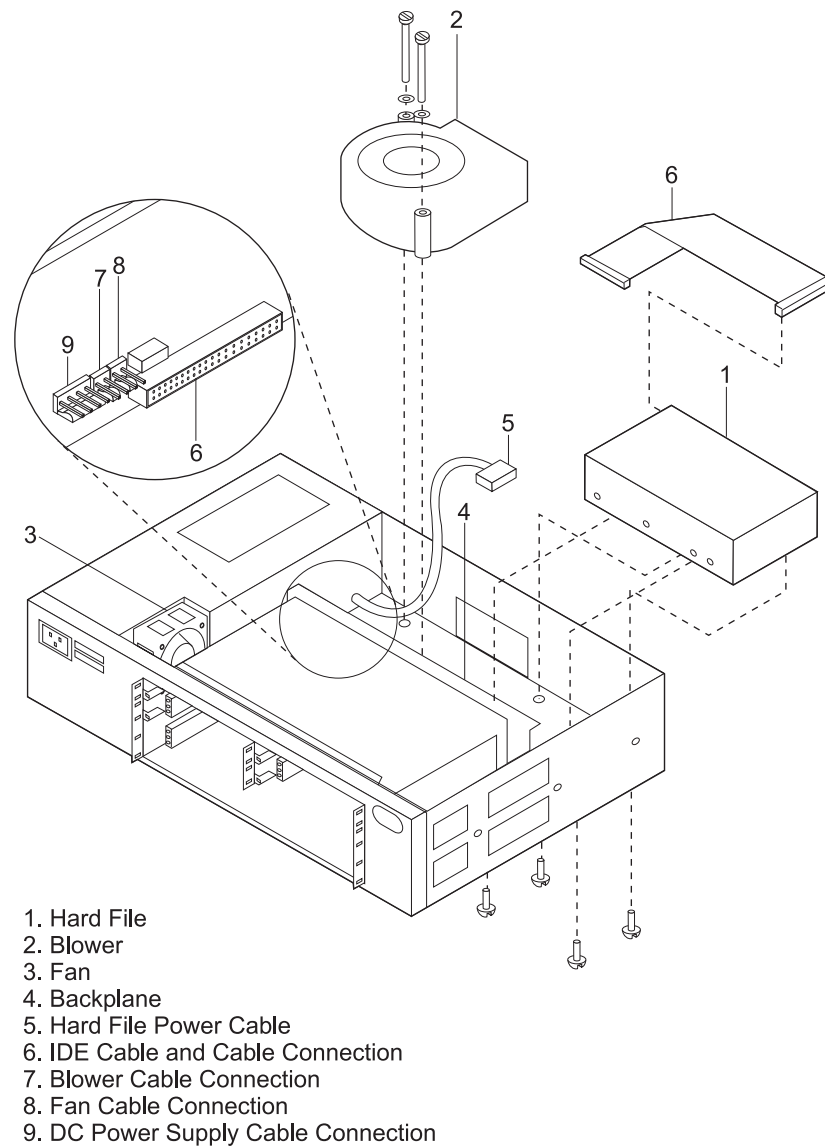

Figure 2-18. Model 4xx Chassis with a Hard Drive
10. Connect the hard drive IDE (flat ribbon) cable to the backplane. Route the hard drive cable so it lies flat under the blower. (See Figure 2-18 on page 2-36.)